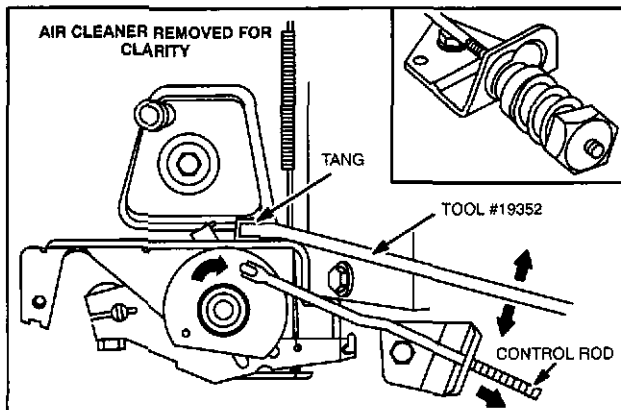

Fig. 21 - Adjusting Top No Load Speed
1. With engine running, pull control rod out until swivel is against stop and hold in this position, Fig. 21. Using tang bender, Tool #19352, adjust to **Top No Load RPM**, for the type of generator listed in Table 1. Then, re-install fixed speed adjustable control nut, spring and retainer. Turn nut clockwise until threads on control rod are visible from end of nut.